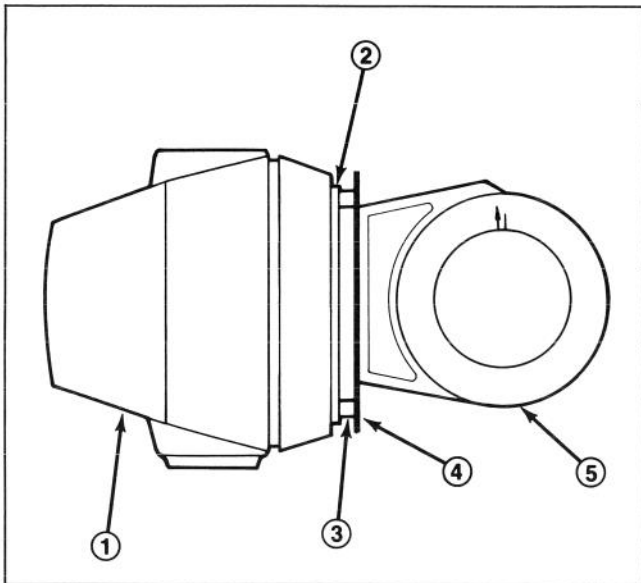

Figure 26
1. Route the harness down the right side of the engine along the 1 in. diameter steel hydraulic tubing to the back bumper. Use cable ties to secure the harness to the original machine wire harness, as needed (Fig. 26).
2. Use a flat piece of sheet metal large enough to fit over the three glass protrusions on the face of the headlights and place it over a headlight (Fig. 26).
3. Mount a magnetic protractor onto the plate (Fig. 26). Hold the assembly in place and carefully tilt the headlight downward 3 degrees (Fig. 26). Tighten the mounting nut.